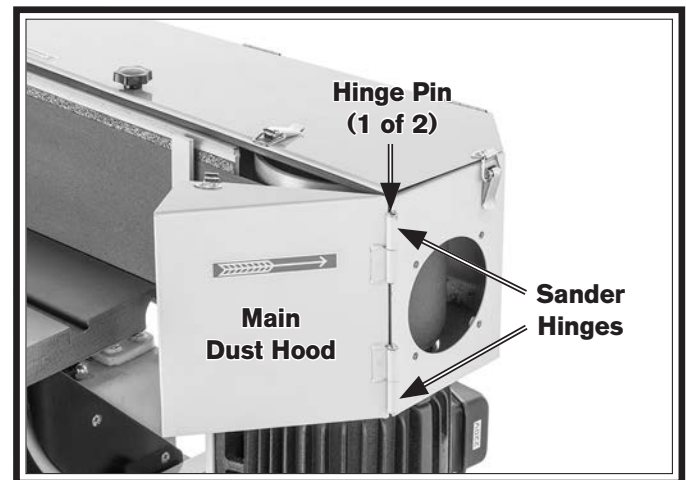

Figure 23. Main dust hood installed.
- Align main dust hood hinges with sander hinges shown in **Figure 23**.
- Secure dust hood in place by inserting (2) hinge pins through aligned hinges (see **Figure 23**) and tapping pins with rubber mallet until fully seated.